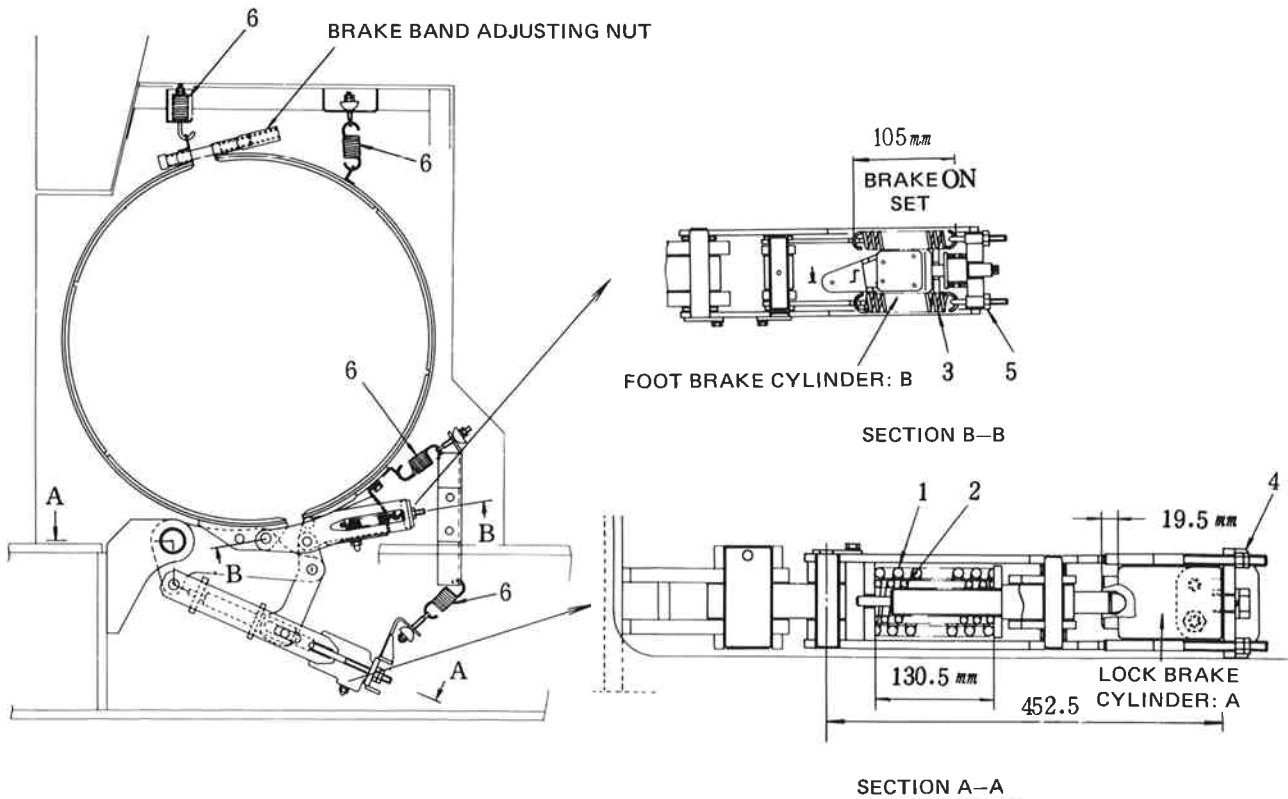

Fig. 12 Third Drum Brake Adjustment
The third drum brakes control the rotation of the third drum. The brake band is connected to two hydraulic cylinders, a lock brake (A) and a foot brake (B) (see Figure 12).
To adjust the third drum brakes when the bands have been removed or the brake operating mechanism has been disturbed, proceed as follows (see Figure 12):